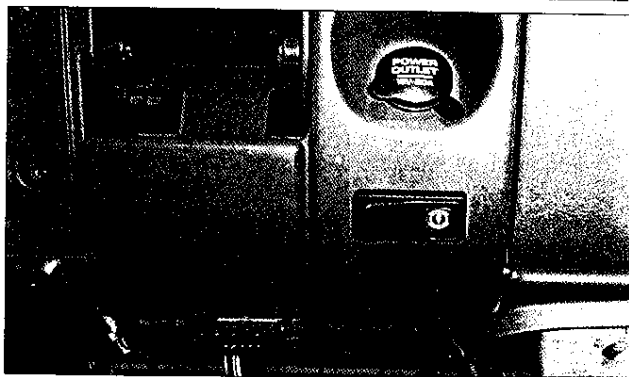

Fig. 20
- Locate the Dashboard Switch Template in Appendix 2. Use this template to locate and cut a rectangular hole in the dashboard for the exhaust brake On/Off rocker switch. The switch should be located in the dash panel, below the power accessory plug (Fig. 20). Drill holes in the dash panel as indicated on the template and saw or file the edges to the template dimensions.